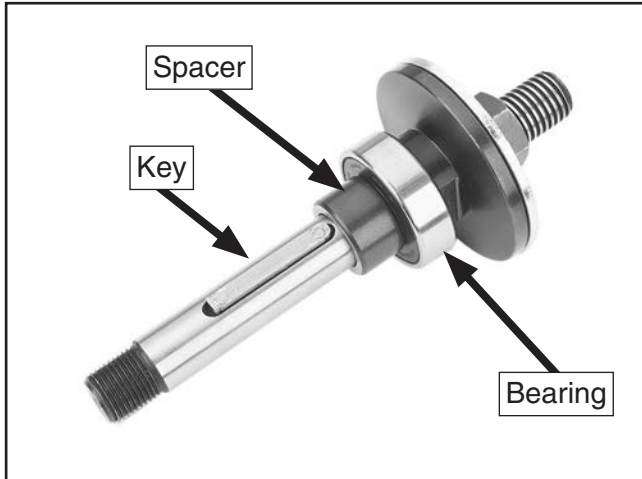

Figure 137. Components re-installed on arbor.
21. Re-install the larger front spacer and key onto the arbor. The arbor should look like the one shown in **Figure 137**.